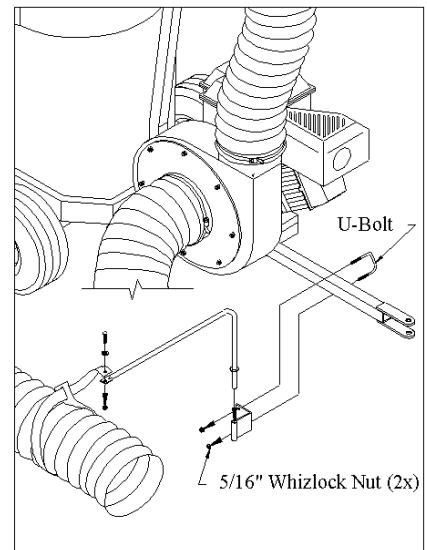

Fig. 9
10. Attach support arm bracket (29) to right side of drawbar with U-bolt (30). Slide support arm into bracket tube. Place support strap around hose, thru slit in strap and bolt to support arm. Hang support strap over edge of support arm like pictured, not over the end. Fig. 9